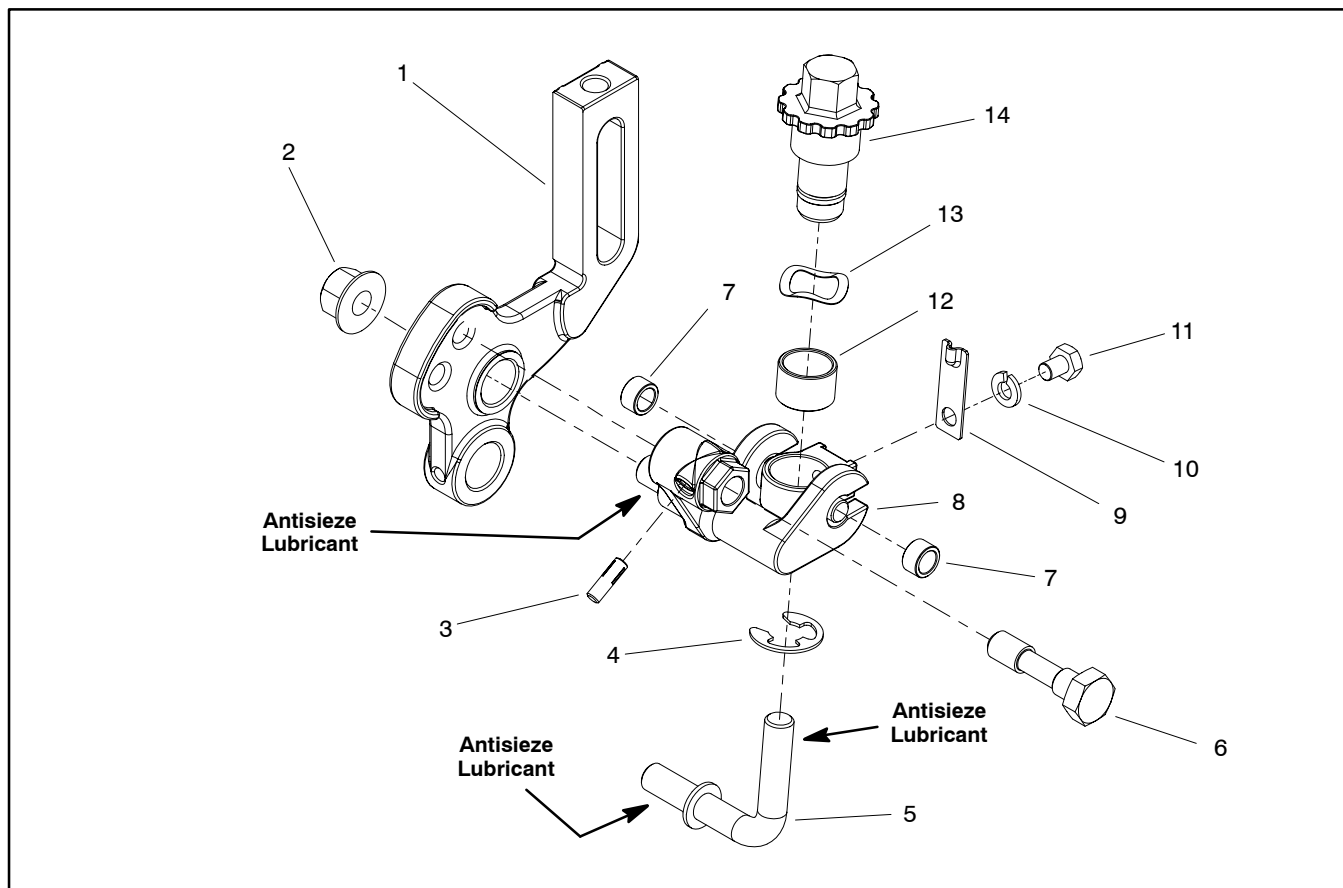

Figure 17
2. Disassemble groomer arm using Figure 17 as a guide.
**NOTE:** Right and left side HOC groomer arms and lift arm assemblies are different; other components shown in Figure 17 are the same on both sides of machine.
**NOTE:** Grooved pin (item 3) is used to retain lock screw (item 6) to lift arm assembly.
1. Apply antisieze lubricant to threads of groomer lift rod (item 5) and lift arm assembly (item 8). Assemble groomer arm using Figure 17 as a guide.